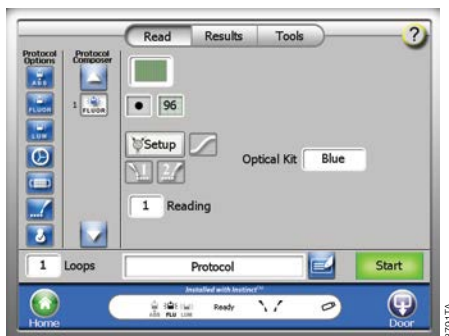

Figure 11. Defining a multiple parameter protocol. Use the scroll buttons (arrows) in the “Protocol Composer” to add or view additional “Protocol Options”.
2. With the Protocol Options icons chosen, define the desired plate layout and Optical Kit (Figure 11). In this example, the “Fluorescence” icon has been selected with the blue optical kit.